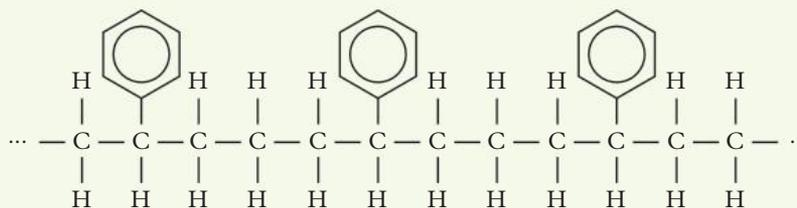

FIGURE 10 A section of a copolymer
- 5 Analyse the section of the copolymer shown in Figure 10 and identify the two monomers used to produce it.